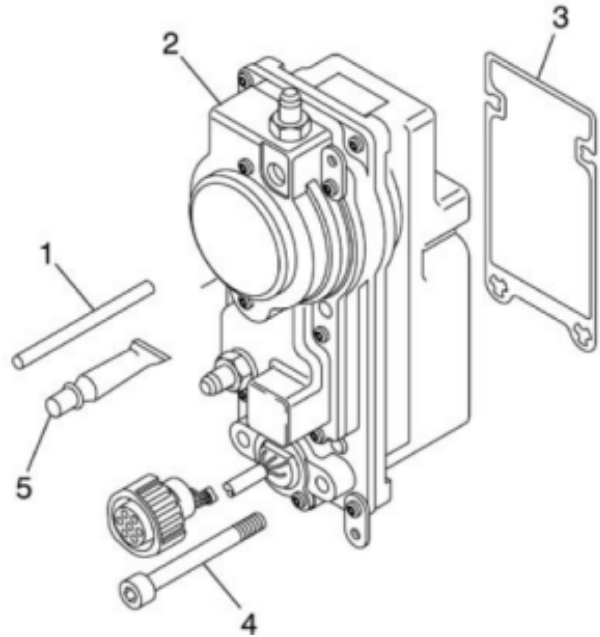

FIGURE 9
12. Unscrew the four hex socket head bolts (item 4) holding actuator to the turbocharger and remove the actuator. Remove and discard the gasket (FIGURE 9).